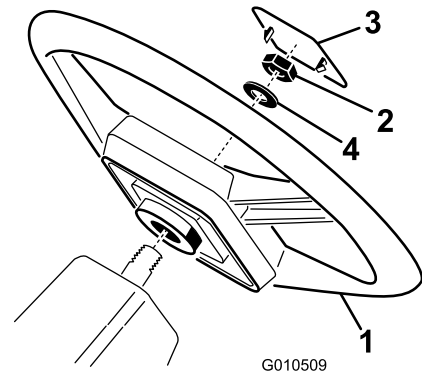

Figure 3
1. Remove the nut from the steering shaft. Slide the steering wheel, and washer onto the steering shaft (Figure 3).